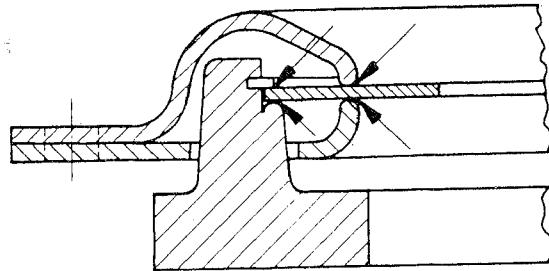

Fig. 1
2. Grease all pivot points of clutch disc spring (See Fig. 1).